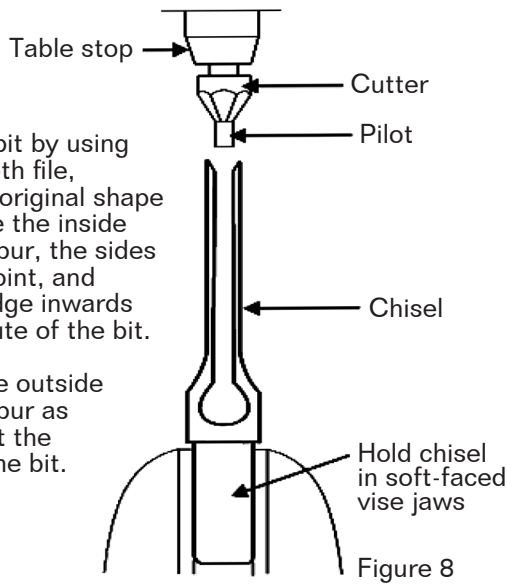

Figure 8
2. Sharpen the chisel with a mortise chisel cutter with the correct size pilot. (Pilot size will differ depending on the size of your chisel). Two or three turns of the cutter in a carpenter's brace chuck should be enough to sharpen the chisel, as shown in Figure 8.